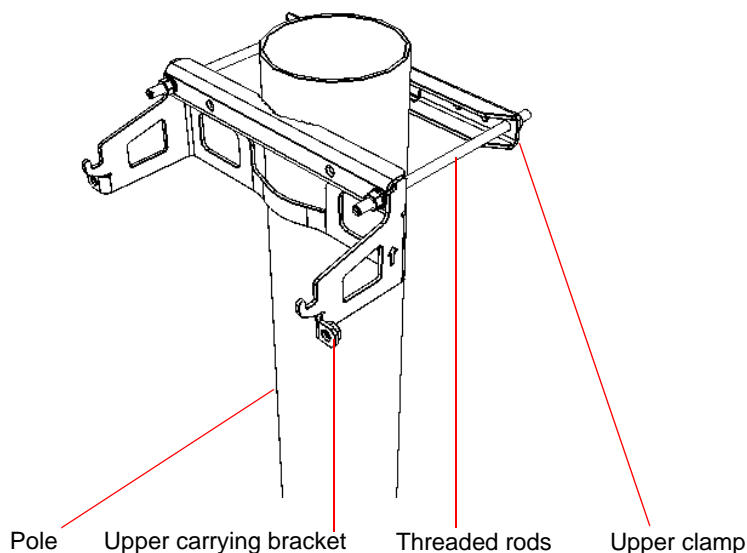

Figure 21: Assembling Upper Carrying Bracket and Clamp on the Pole
- 3 On the pole, assemble the upper carrying bracket: Thread the other threaded rod through the bracket and the clamp; tighten using the supplied washers, spring washers and nuts (Figure 21). Apply torque of 20 [N*m] (177 [lbs*in]).